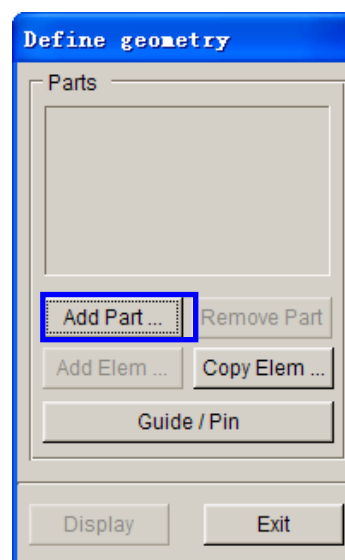

Figure 5.43 Define geometry dialog box
5. The DEFINE GEOMETRY dialog box illustrated in Figure 5.43 is displayed. Next, click the **Add Part...** button in the dialog box.